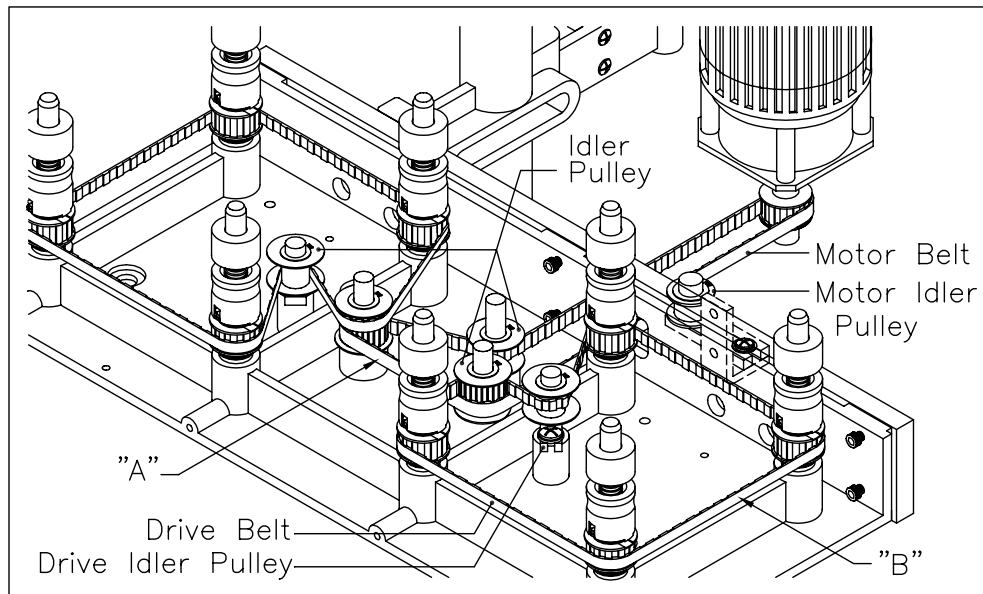

Figure 8-4: Belt Adjustment
To adjust the belts, see Figure 8-4:
3. Loosen the 3 idler pulleys and remove both the drive belts. (see Figure 8-4)